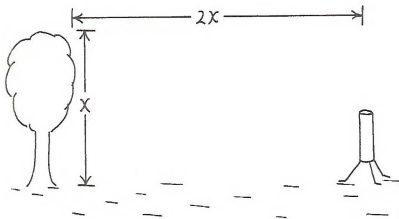

Figure 2a. When possible, the distance between gage and shielding vegetation should be twice the height of the vegetation.
- A better rule, when possible, is to be sure that the distance from the shielding vegetation to the gage is equal to at least twice the height of the vegetation. (Figure 2a)